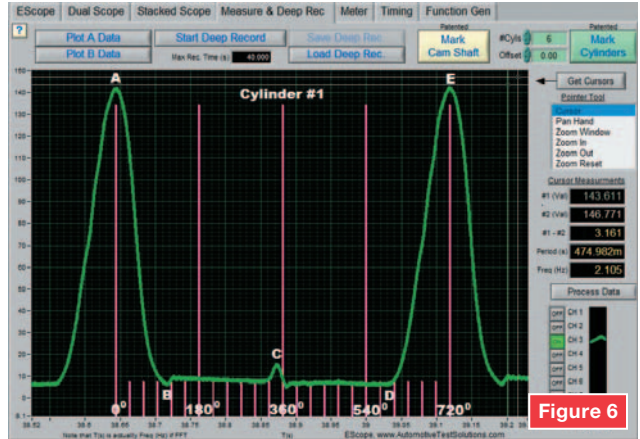

Figure 6
Now let's look at another vehicle — a Hyundai XG 350 with a V6 3.5 Liter DOHC engine. This engine cranks and tries to start, but fails to run. In **Figure 6**, cylinder No. 1 from bank 1 is shown. Points A and E are the TDC positions. By marking these two positions, which represents one fire cycle or 720 degrees of crankshaft rotation, you can now divide this waveform into segments. These segments can represent the four strokes of the internal combustion engine or be divided into the number of cylinders the engine you are working on has. If your scope does not automatically mark these segments, then this can be accomplished on your scope by simply marking the compression waveform with the scope cursors. Now look at the time given by the scope for the time between the cursors, then take the time and multiply it by .25 = 180; .50 = 360; .75 = 540.
So in **Figure 6**, take the time shown on the right in the period (S) display, which is 474ms, and multiply this to set your TDC and BDC locations. So in this example: 474ms x .25 = 118.5ms BDC; 474ms x .50 = 237ms TDC; 474ms x
Now let's look at **Figure 6** taken from cylinder No. 1. Point B is where the exhaust valve opening is located at 70 degrees before BDC. While cranking the engine, this exhaust valve opening position should fall between 30 degrees to 60 degrees before BDC. So at 70 degrees, this exhaust valve opening is clearly in an advanced position. Now look at point C. The pressure increases as the piston nears the TDC position. At 15 degrees before TDC, the pressure tops out and then quickly drops, due to the intake valve opening. If the exhaust valve opens too early, it will also close too early. When the exhaust valve closes early, the volume that is still contained in the cylinder will be trapped. As the piston continues to move upward, the trapped volume is compressed, thus increasing the in-cylinder pressure. At point D, the intake valve is closing. This can be seen at the point the pressure starts to increase at some 50 degrees of crankshaft rotation. From point D to point E, the volume within the cylinder is compressed, thus increasing the in-cylinder pressure. It is interesting to note that the rising pressure is not smooth, but has slight changes in it. Additionally, the compression tower has a slight lean to it. This can be seen by looking at the pink TDC marker and comparing the rising and falling